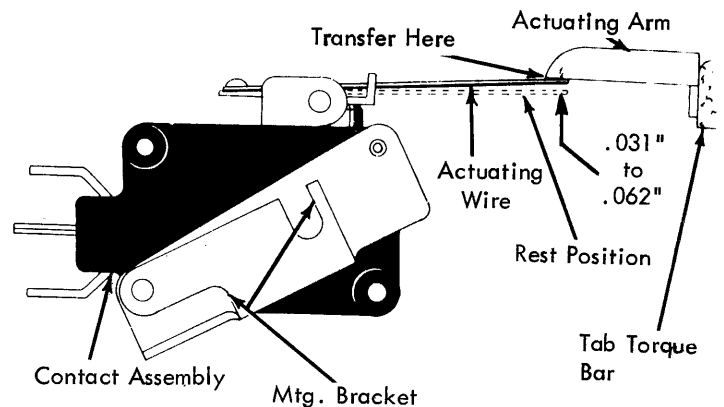

FIGURE 244. Interlock Contact
- As the tab torque bar restores, position the mounting bracket (up or down) so that the contact actuating wire travels .031" to .062" after the contact transfers (Fig. 244). This is done to insure that machine vibration does not cause the contact to transfer.